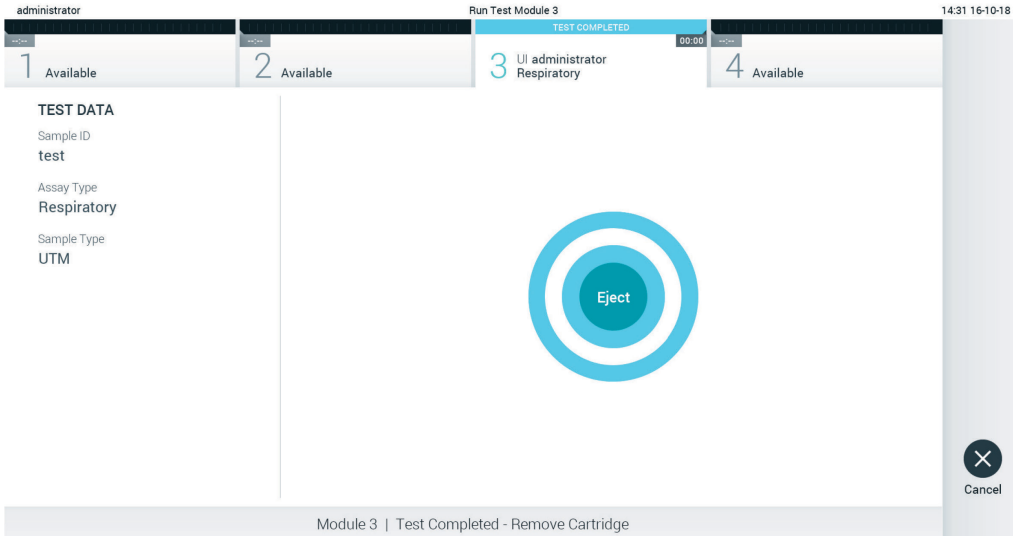

Figure 29. Eject screen display.
10. After the test run is completed, the **Eject** screen will appear (Figure 29, next page). Press **Eject** on the touchscreen to remove the QIAstat-Dx assay cartridge and dispose of it as biohazardous waste in accordance with all national, state, and local health and safety regulations and laws.